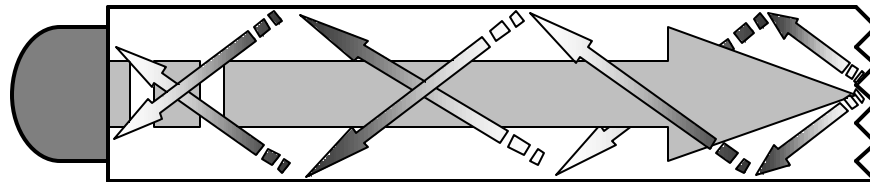

Figure 6
- Rough reflecting bolt ends. As shown in Figure 6, if the reflecting end of the bolt is rough or curved, most of the reflected energy will be dispersed and a weak or distorted echo will be received.